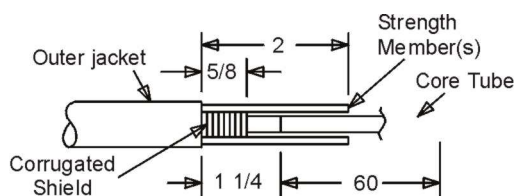

Figure 7. LXE Cable Preparation
5. Prepare LXE cable as per Figure 7.